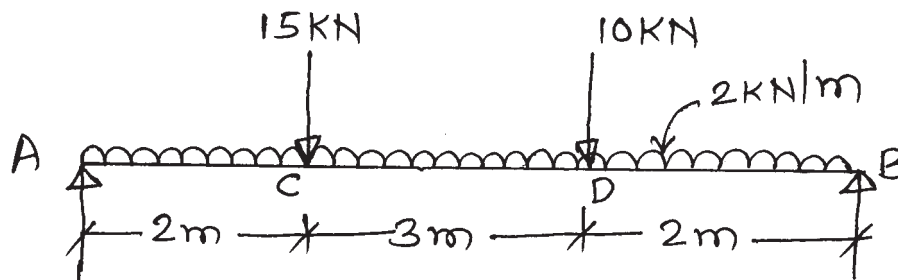

Fig. No. 4
- b) Draw SF and BM diagrams for the simply supported beam loaded as in Fig. No. 4.